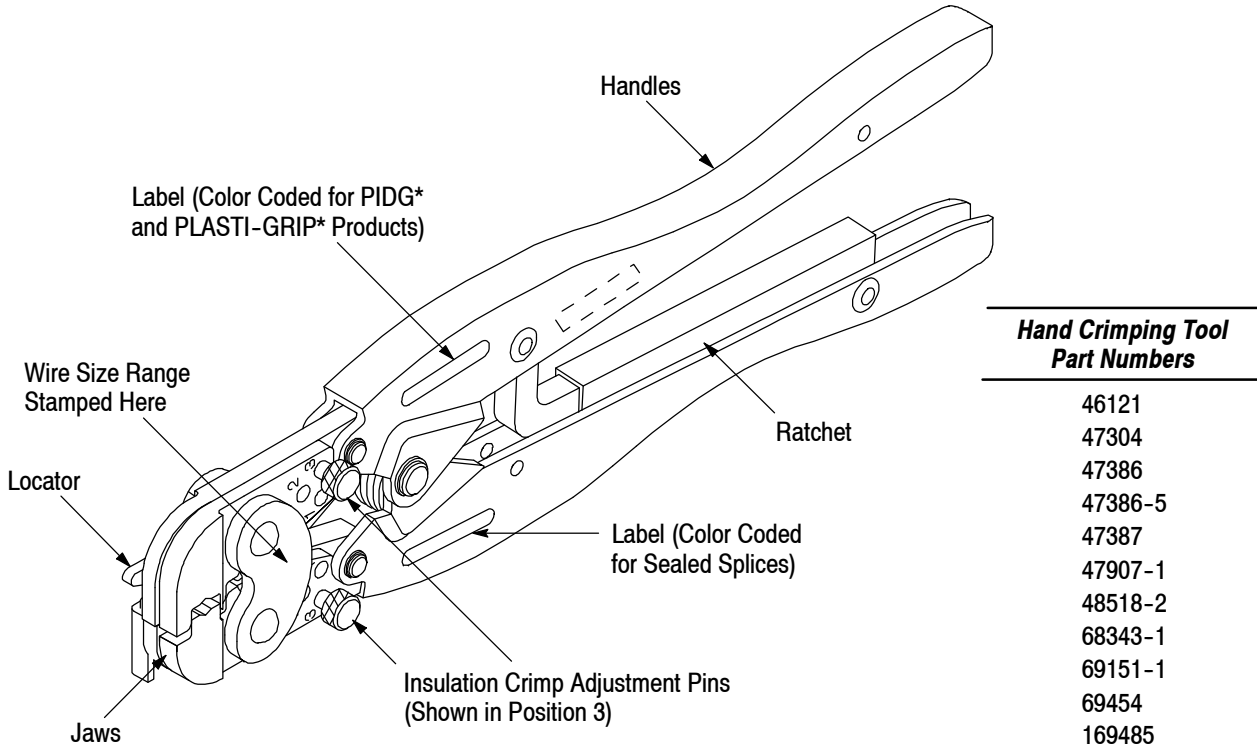

Figure 1
CERTI-CRIMP hand crimping tools listed in Figure 1 are used to crimp the products onto the wire listed in Figure 2.
**2. DESCRIPTION** (Figure 1)